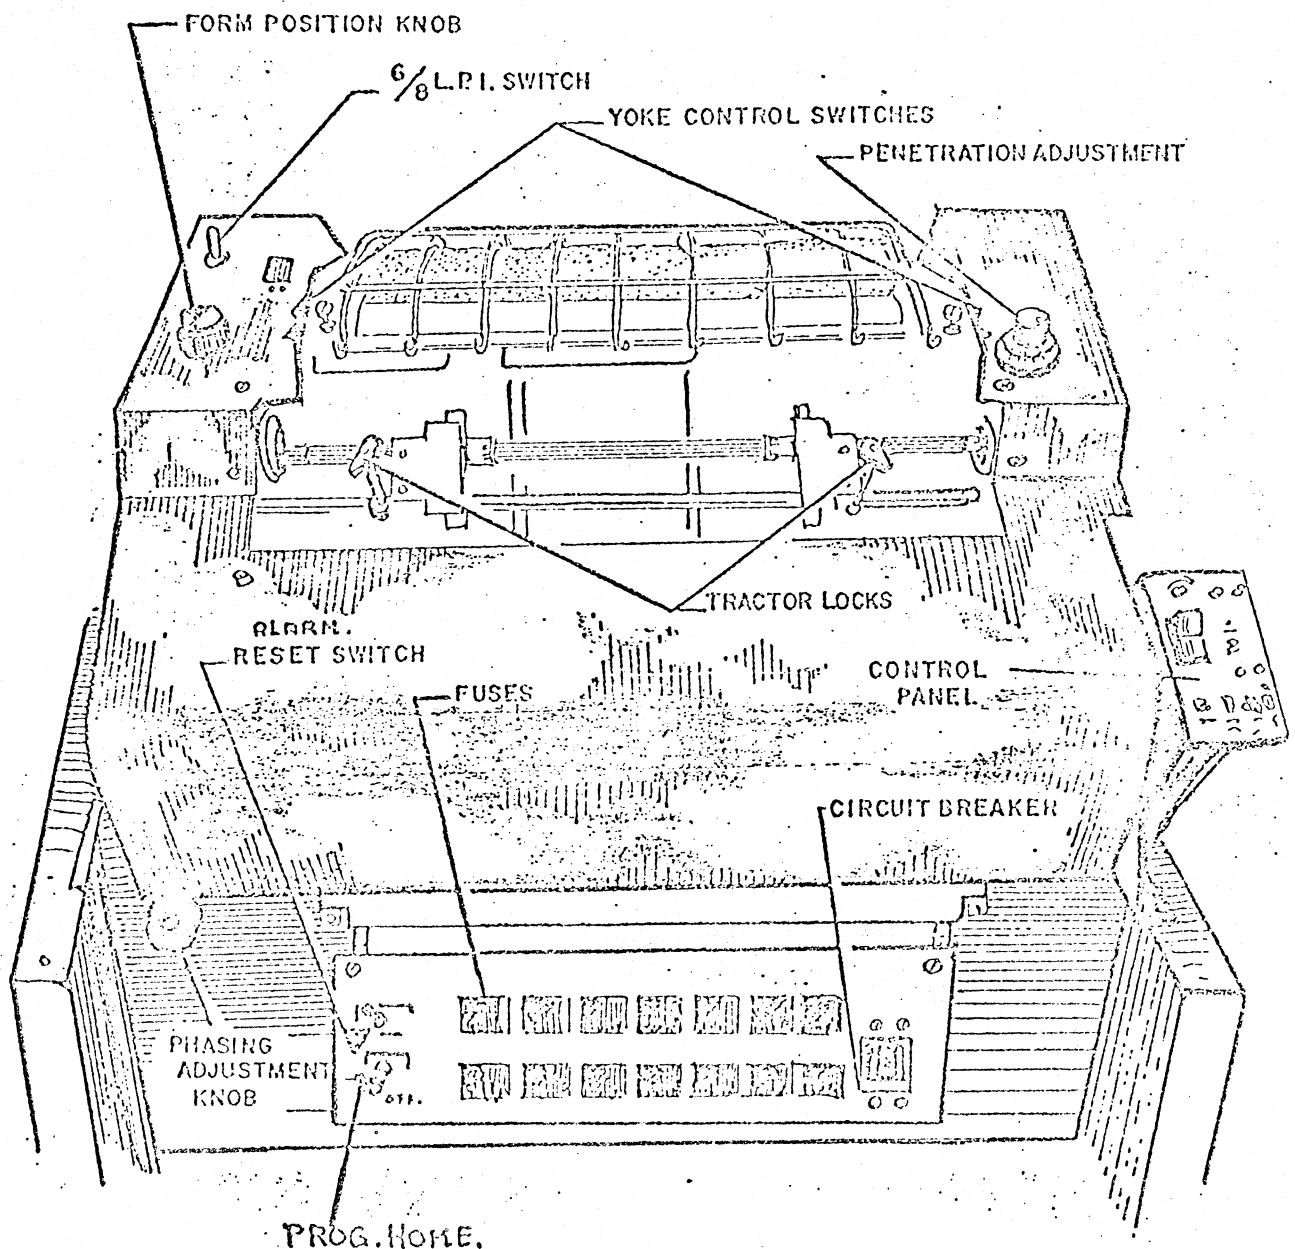

Figure 1-5 Operator Controls
Additional operator controls (Figure 1-5) are provided for set-up and maintenance. These are as follows:
- b. Set the main circuit breaker, located on the right side of the fuse panel, to ON. (Figure 1-5)
- e. Press and hold the Yoke Open/Close switches until the yoke has opened completely. It will automatically stop at its limit. (Figures 1-5, 1-6)